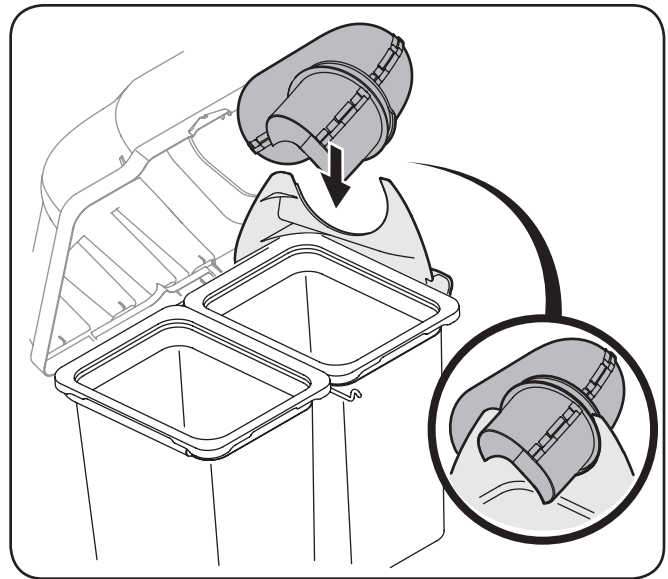

Figure 4-24
9. With the bagger cover open, install the upper chute over the chute adapter, and rest the top so that the chute support sits in the upper chute groove. See Figure 4-24.
Note: Make sure to align the upper chute with the ridges on the bagger support bracket. With the bagger cover open, install the upper chute over the chute adapter, and rest the top so that the chute support sits in the upper chute groove. See inset of Figure 4-24.